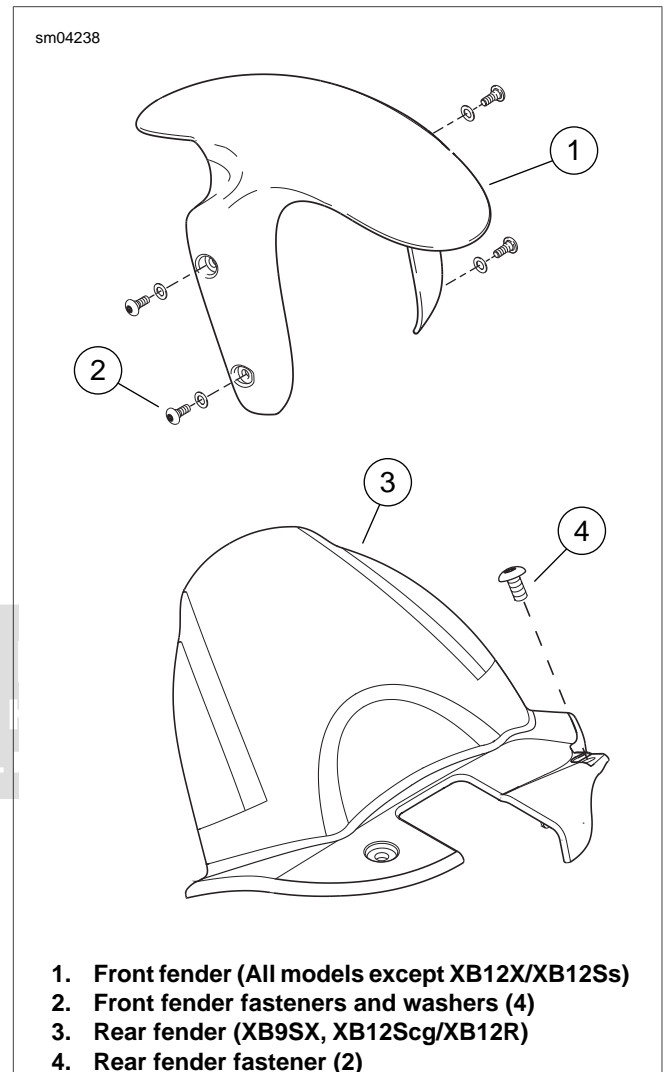

Figure 2-86. Front and Rear Fender: All Models except XB12X/XB12Ss
1. See Figure 2-86. Remove fasteners and washers (2) securing the front fender (1) to front forks.
2. Carefully remove front fender (1).
1. See Figure 2-86. Align front fender (1) to fender mounts on front forks.
2. Use LOCTITE 271 (red) on all fasteners and install front fender (1) with fasteners and washers (2) and tighten to 36-48 **in-lbs** (4-5.4 Nm).
1. See Figure 2-86. Remove fasteners and washers (4) securing the rear fender (3) to swingarm.
2. Remove rear fender (3).
1. See Figure 2-86. Align rear brake line in rear fender.
2. Install rear fender (3) with fasteners and washers (4) and tighten to 12-36 **in-lbs** (1.4-4 Nm).
1. See Figure 2-86.
- a. Remove fasteners (4) securing the rear fender (3) to swingarm.
- b. Remove fender fasteners (6).
1. See Figure 2-86. Align rear fender to the swingarm.
2. Install rear fender with fasteners (6) and tighten to 12-36 **in-lbs** (1.4-4 Nm).